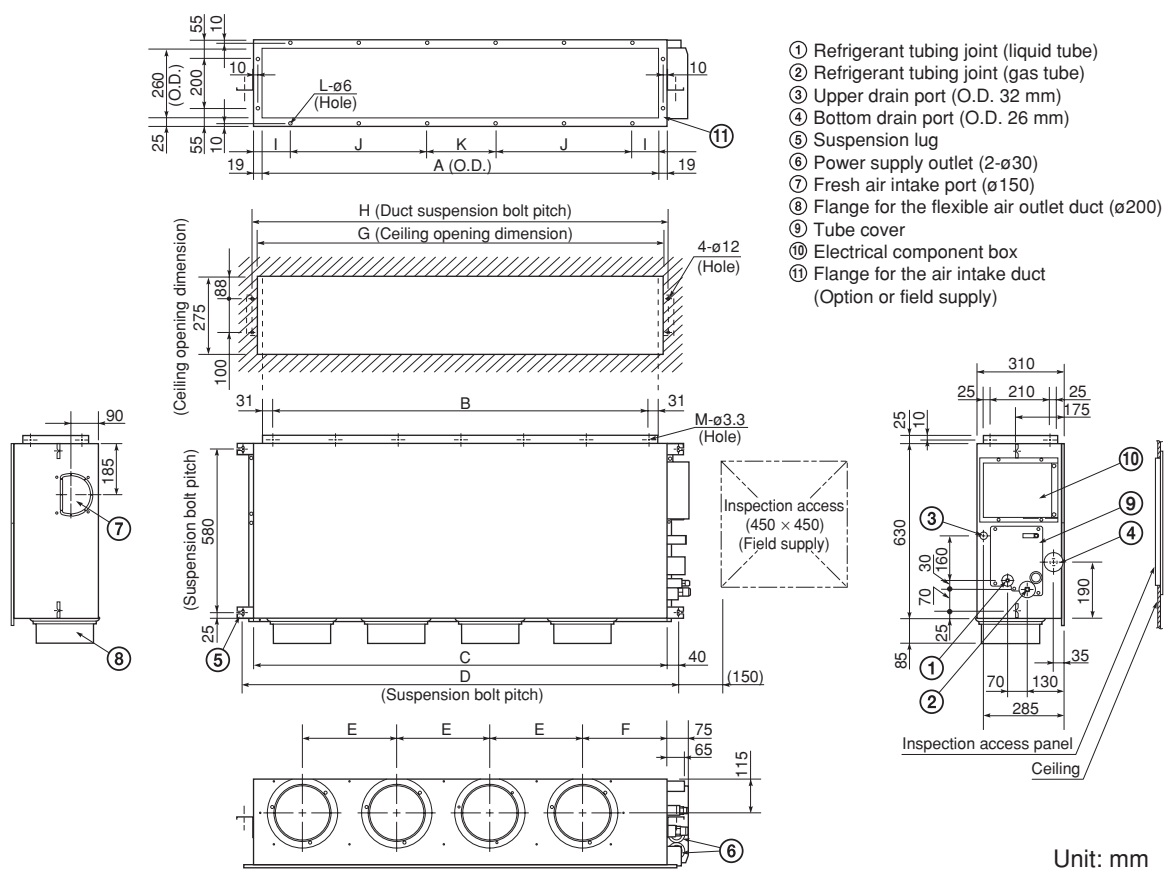

Fig. 3-99
- Fig. 3-99 and Table 3-6 show the detailed dimensions of the indoor unit.